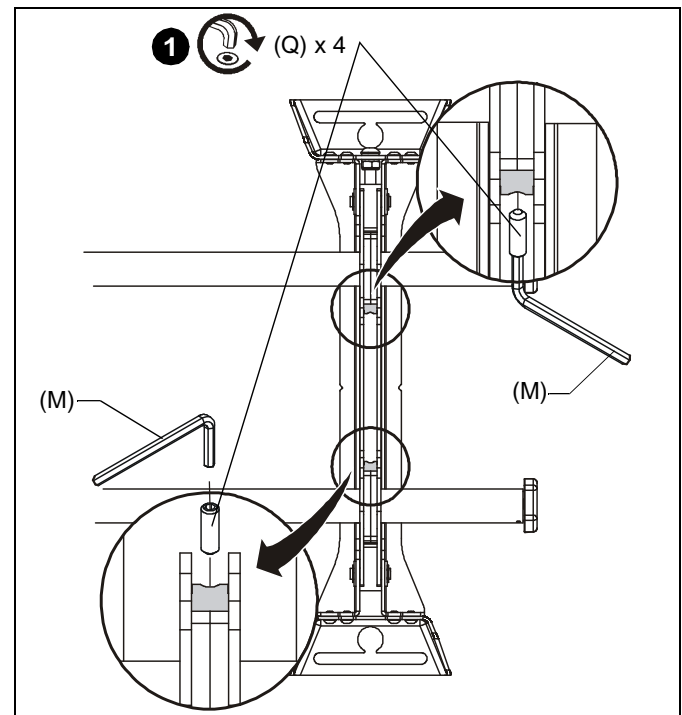

Figure 4
1. Lock rails into place using two 1/4-20 x 3/4" set screws (Q) on mount upright (Z) and the 1/8" hex key (M). (See Figure 4)